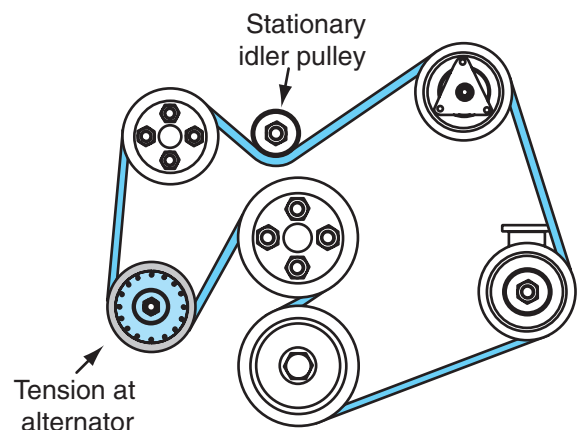

FIGURE 15.22 The alternator tensions this belt.
- Moving an accessory such as the alternator (**Figure 15.22**)